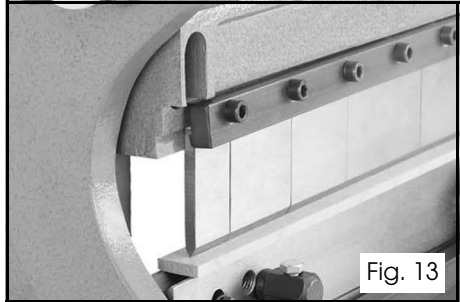

Fig. 13
- Place a thin piece of wood on the finger receiver, as shown in Figure 13, then reinstall the fingers so that they rest on the wood. Make sure the tops of the fingers are between the gib and the casting.